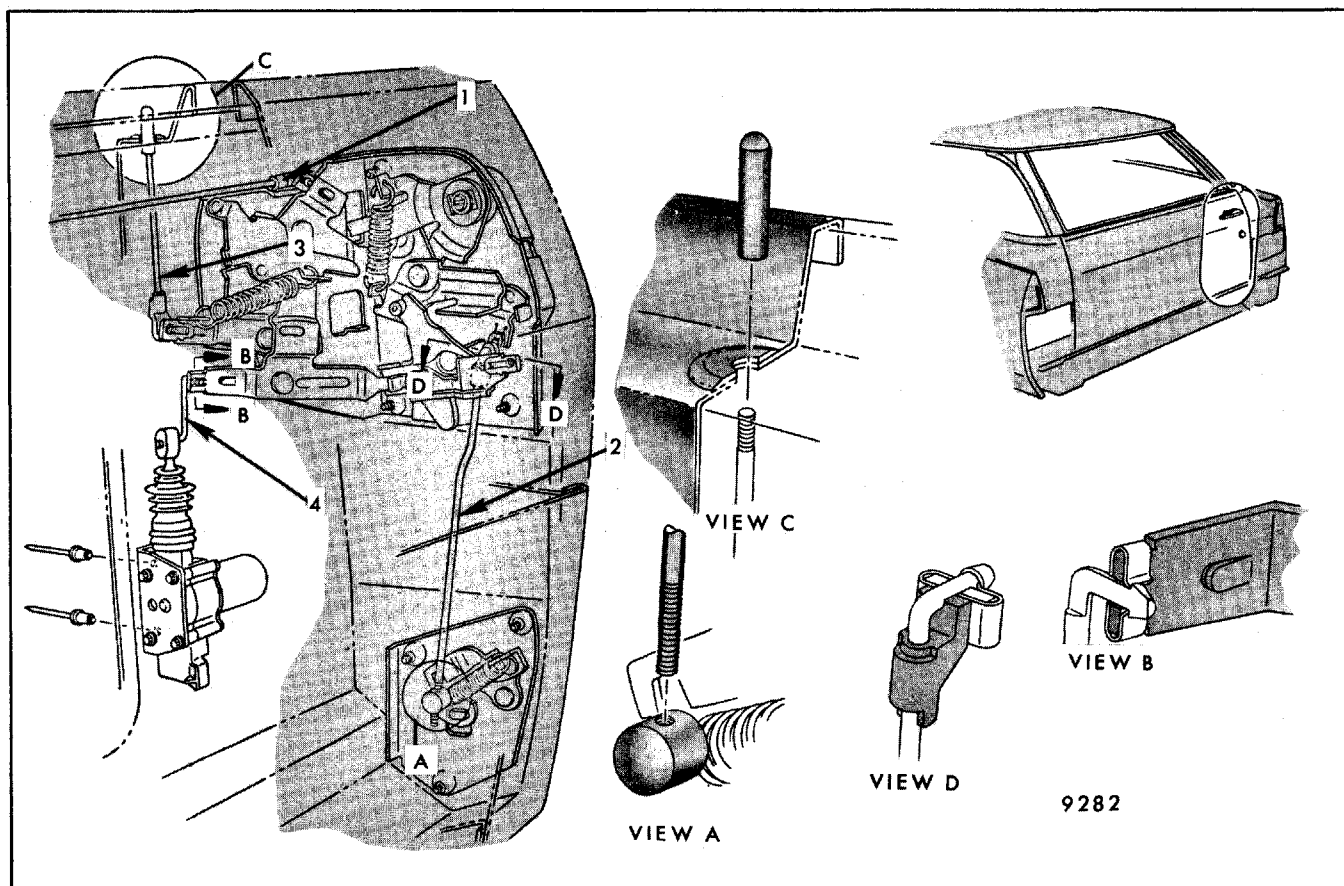

Fig. 7-138 - Tailgate Locking Rods
2. Engage all previously removed rods and electrical connectors except right upper to lower locking rod, 2, Figure 7-138.
- Disengage right upper to lower synchronization locking rod swivel from lock clip, Figure 7-138, 2. Disconnect electrical connector for tailgate ajar switch.